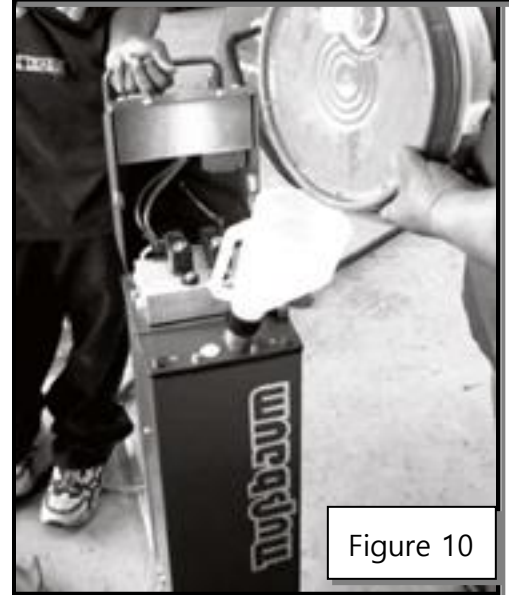

Figure 10
- Notice “T” fittings in Figure 10. Loosen very slightly and point hoses towards control station and retighten.